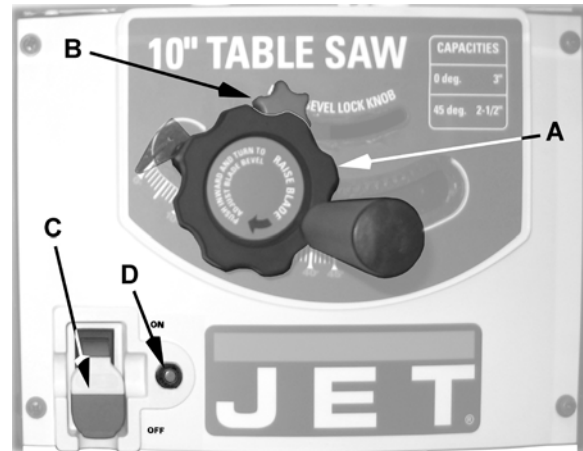
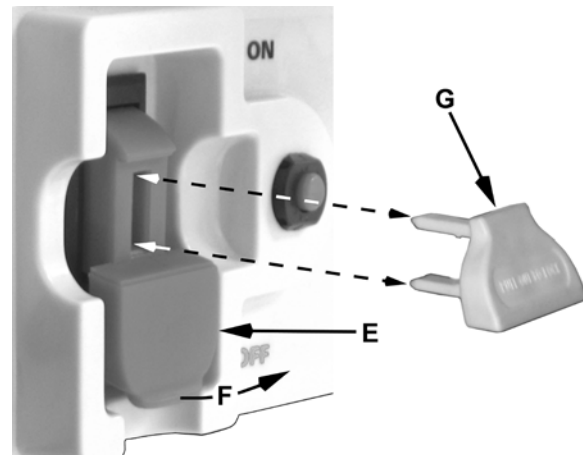

Figure 26
Figure 27
On/Off Switch – The *on/off switch* is located on the front panel of the saw base (C, Fig. 26). To turn the saw *on* move the switch to the *up* position (F, Fig. 27). To turn the switch off move the switch to the down position.
Locking Key – When the saw is not in use, the switch should be locked in the off position. To lock the switch in the off position, pull out the *safety key* (G, Fig. 27). The saw will not start with the key removed. However, if the key is removed while the switch is in the on position, it can be turned off once. The saw will not restart until the key has been reinserted into the switch.
Overload Protection – This saw is equipped with a resettable *overload relay button* (D, Fig. 26). If the motor shuts off or fails to start due to overloading or low voltage, turn the *switch* (C, Fig. 26) to the *off* position and let the motor cool down for at least five minutes. After the motor has cooled down, push the *reset button* (D, Fig. 26) to reset the overload device. The saw should now start when the switch is returned to the on position.
Blade Height/Tilt Handwheel – The *handwheel* located on the front of the saw (A, Fig. 26) sets the blade *height* and *tilt*.
wheel (A, Fig. 26) clockwise or counterclockwise.
2. Loosen the *blade tilt lock knob* (B, Fig. 26) by turning counterclockwise.
4. Continue holding the *handwheel* (A, Fig. 26) in until the *lock knob* (B, Fig. 26) is tightened.
- ❑ As the machine receives use, the operation of the anti-kickback pawls should be checked periodically (Figure 26). If the pawls do not stop the reverse motion of a workpiece, sharpen all the points.